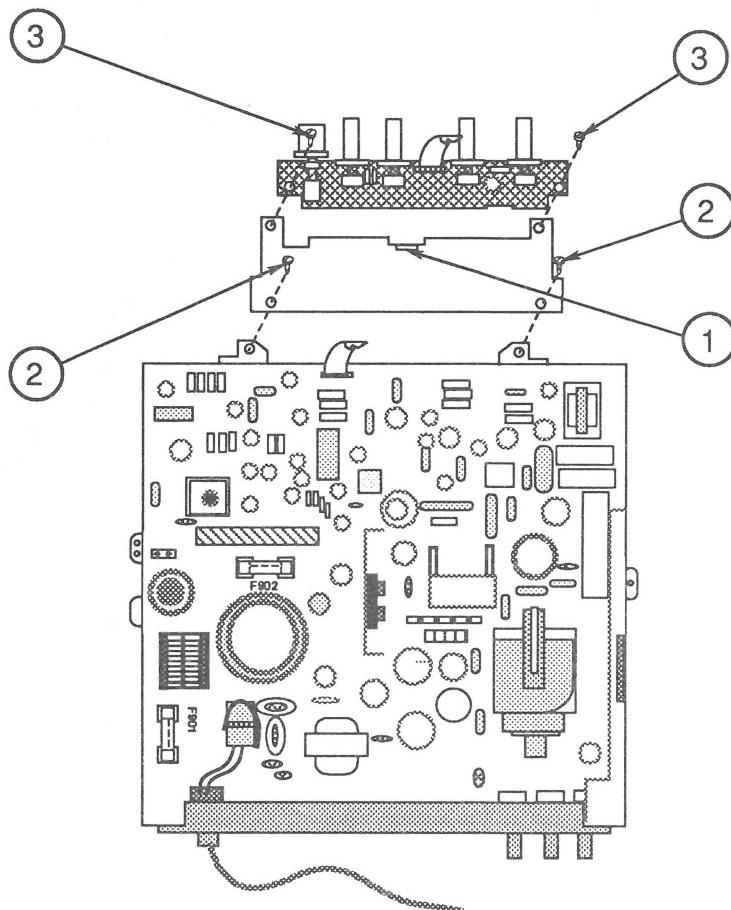

FIGURE 23
- a) With the tab (Figure 23, #1) pointing up, align the holes on the smooth side of the bracket with the holes on the two tabs projecting out of the metal frame.
- b) Install the two screws (Figure 23, #2) that secure the extension bracket to the metal frame.
- d) Install the two screws (Figure 23, #3) that secure the control PCB to the extension bracket.